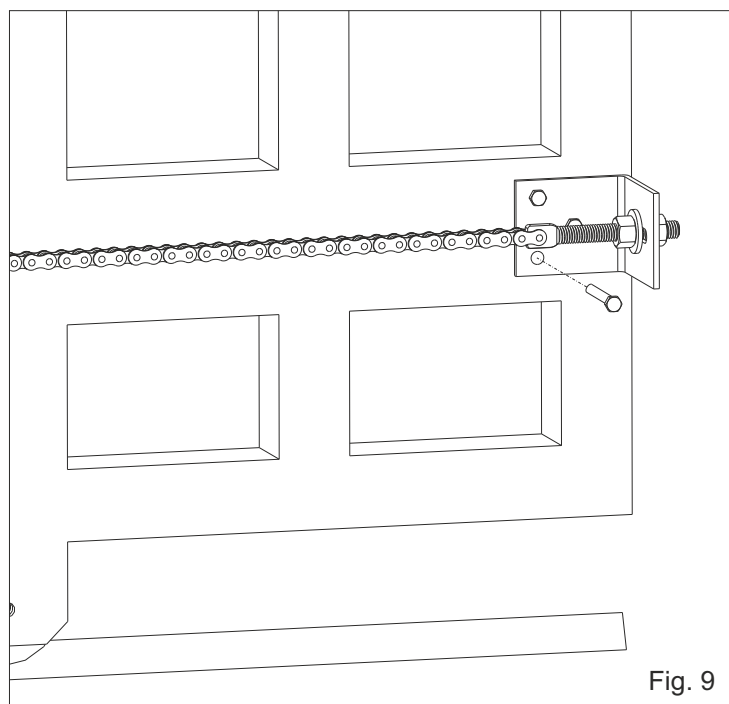

Fig. 9
1. Fix the angle irons, with not supplied screws, to the two extremities of the gate and fix the chain with the provided tie rod (fig. 9).